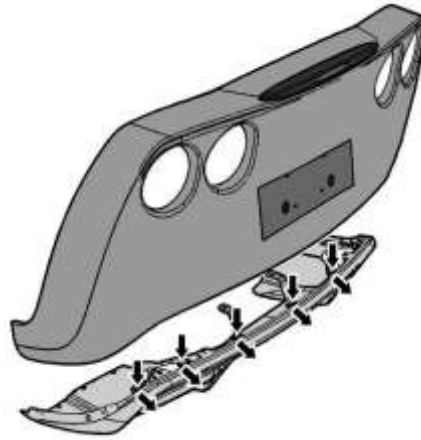

Figure 5. Five of seven tab locations
- Gently pull stock valance away from vehicle while simultaneously pushing tabs down from the back side of the valance. Please note that these tabs can become brittle and break if care is not used when pulling them from fascia. There are 3 tabs along the center, and 2 on each end (one in-between the lamp mounting points, and one along the outer edge between the lamp and bolt holes. (See *figure 5 and 6*)